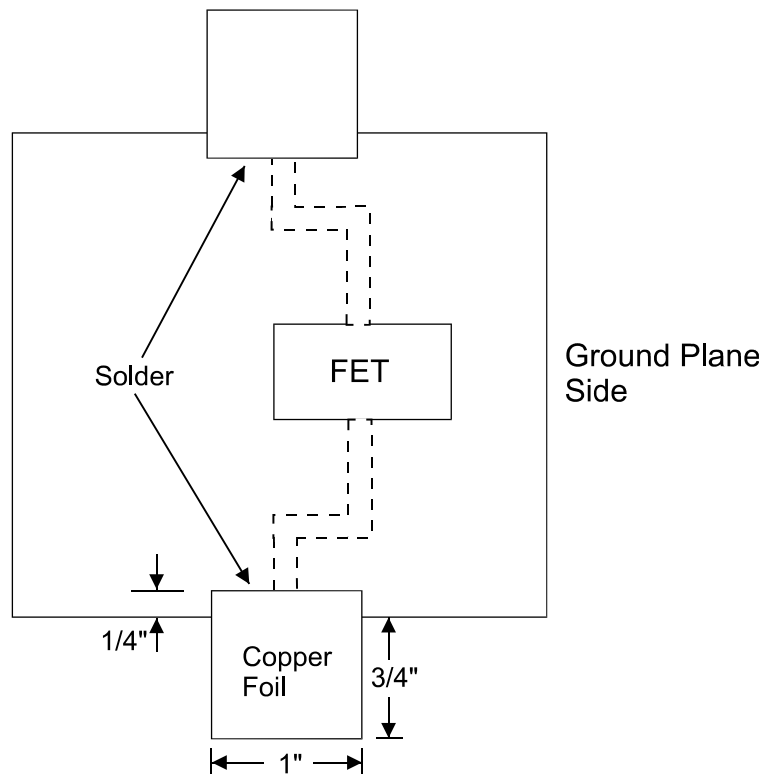

Figure 1
1. Prepare the PC board by installing copper foil on the ground plane side beneath the RF input and output connectors. This foil improves the ground connection of the PCB to the enclosure and RF connectors. See Figure 1 for proper assembly. Make solder connections as smooth as possible. File smooth if necessary.